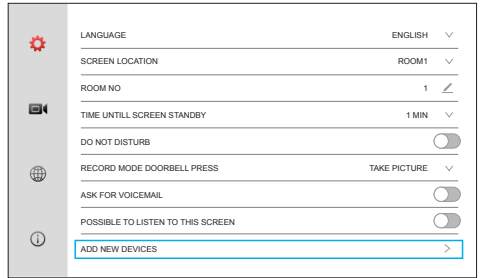

Figure 13
Step 1: At the standby state, press , to enter system main menu. Click , to enter the interface as Figure 13, then click "ADD NEW DEVICES" as shown on the figure.